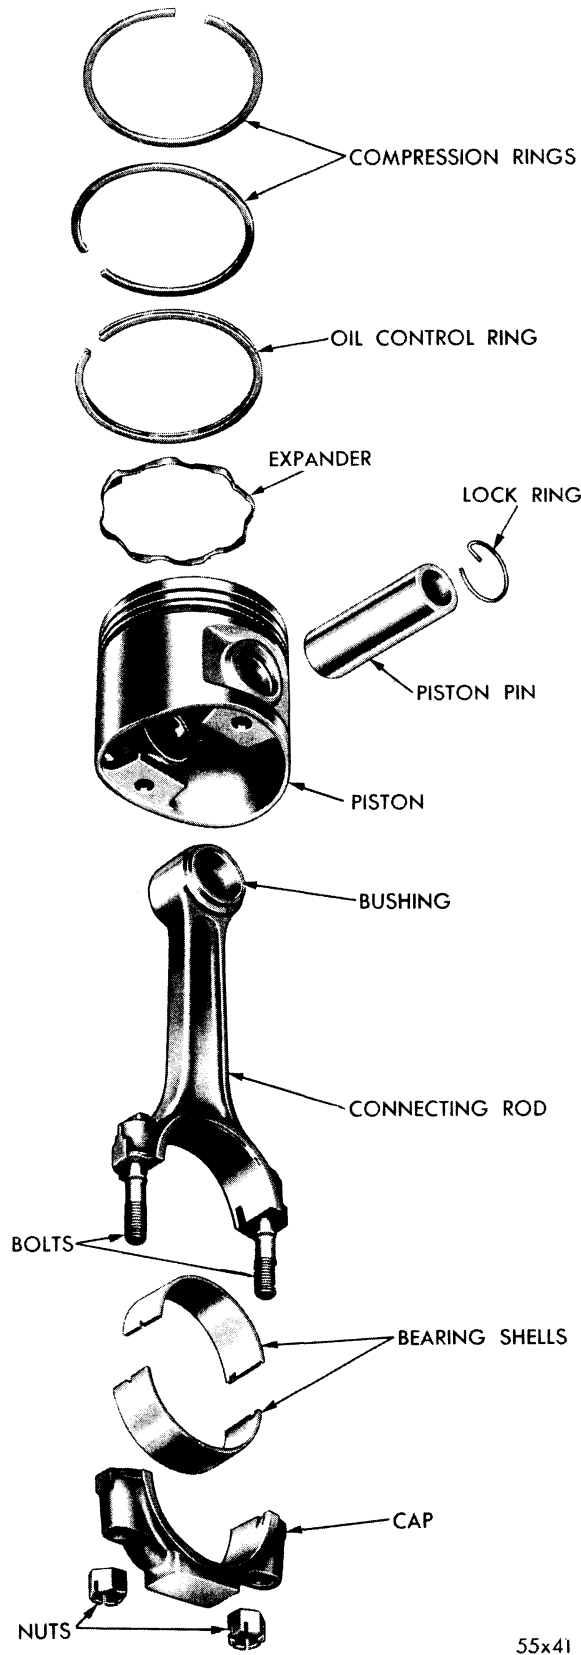
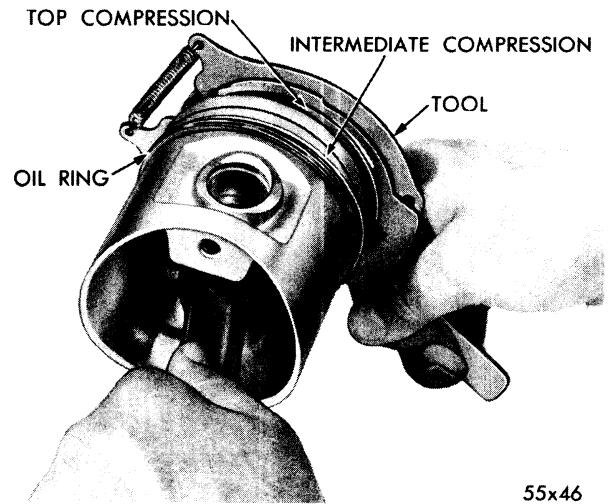

Fig. 36—Piston and Rod Assembly (Disassembled View)
Fig. 37—Installing Rings on Piston
- (4) Start with the oil ring expander; place expander ring in lower ring groove. Install oil control ring and compression rings, using Tool C-469, as shown in Figure 36 and Figure 37.